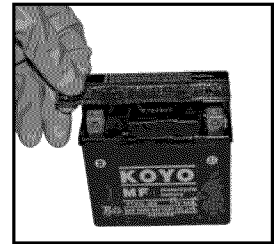

Figure 20
- Place battery on level surface. Remove cap strip from top of battery. (see figure 20)